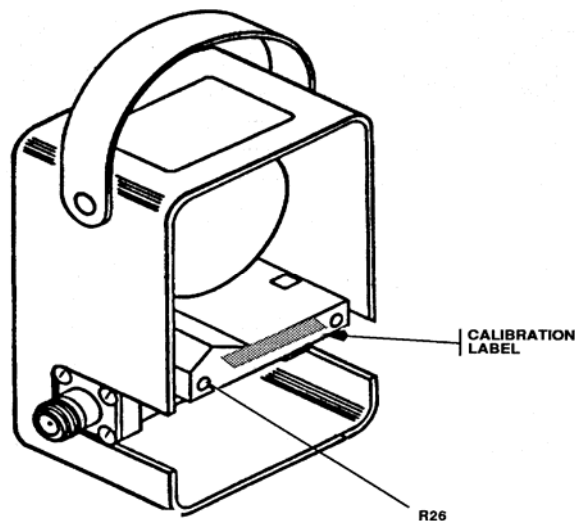

Figure 1. Calibration label and adjustment location.
- (3) Connect other end of BNC T connector to frequency counter.
- (4) Adjust audio analyzer frequency controls for a frequency counter indication 1000 Hz.
- (5) Disconnect frequency counter from BNC T connector.
- (6) Connect end of BNC T connector to multimeter (ac mode).
- (7) Set factor switch to 1.
- (8) Adjust audio analyzer amplitude output controls for a multimeter indication between 0.1591 V rms,  $\pm 0.00005$  V rms.
- (9) Locate access hole to R26 (fig. 1).
- (10) Pierce paper strip covering R26 (fig. 1) adjustment.
- (11) Adjust R26 (fig. 1) until meter pointer rests on 1 on the uppermost scale.
- (12) Replace back cover and four screws removed in **b** (l) above.
- (13) Repeat paragraph **8 a** above.